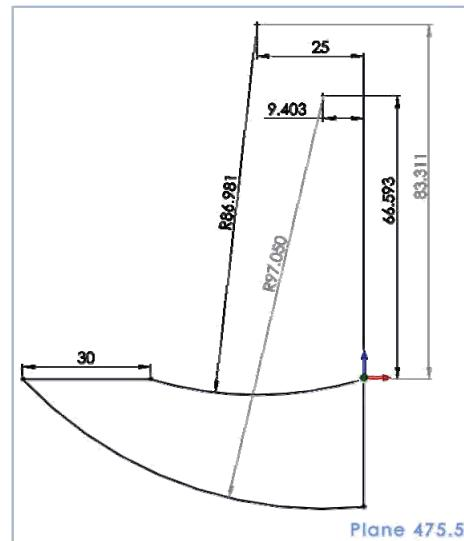

Fig. 3.12
**14 Schițare contur 7:** comanda Sketch- Fig. 3.12 – Selectie plan 475.5 / Schițare contur /
**14 Sketching of the 7 contour:** the Sketch command - Fig. 3.12 – Select 475.5 Plane / Sketch the contour /